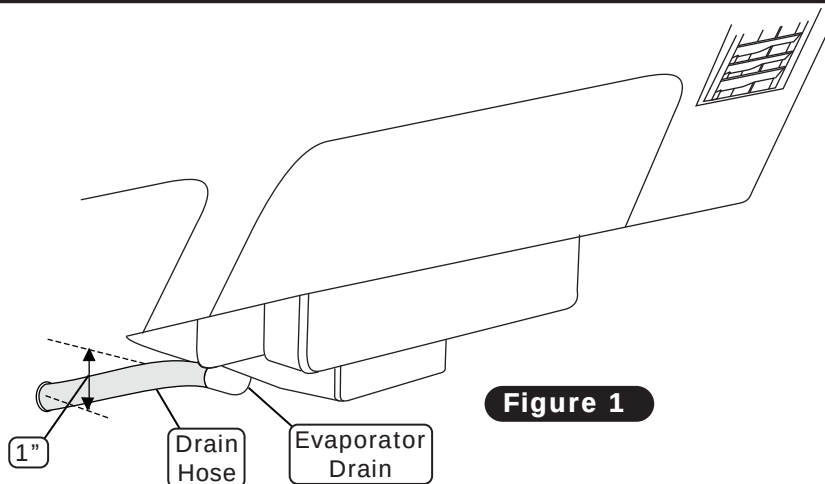

Figure 1
2. In line with the drain, lightly make a mark on firewall. Then, measure 1" down and drill a 5/8" hole through the firewall (See Figure 1, below).